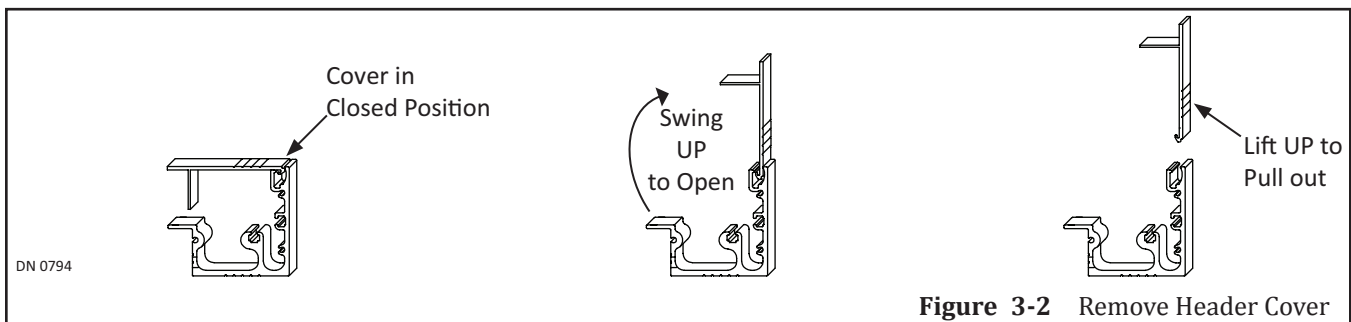

Figure 3-2 Remove Header Cover
4. Go to the bottom of Header, remove (2) #8-32 x 5/8" phillips head screws used to secure the Cover to Header. Save screws for reinstallation.
5. Remove the Cover by lifting it up and then pulling it out. Please see Figure 3-2.